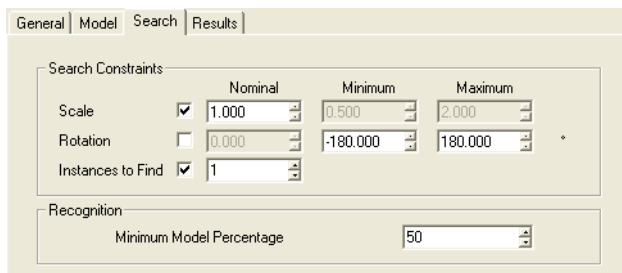

Figure 59 Search Panel of the Locator Tool
4. Leave all the other parameters to their default setting also, as shown in Figure 59.